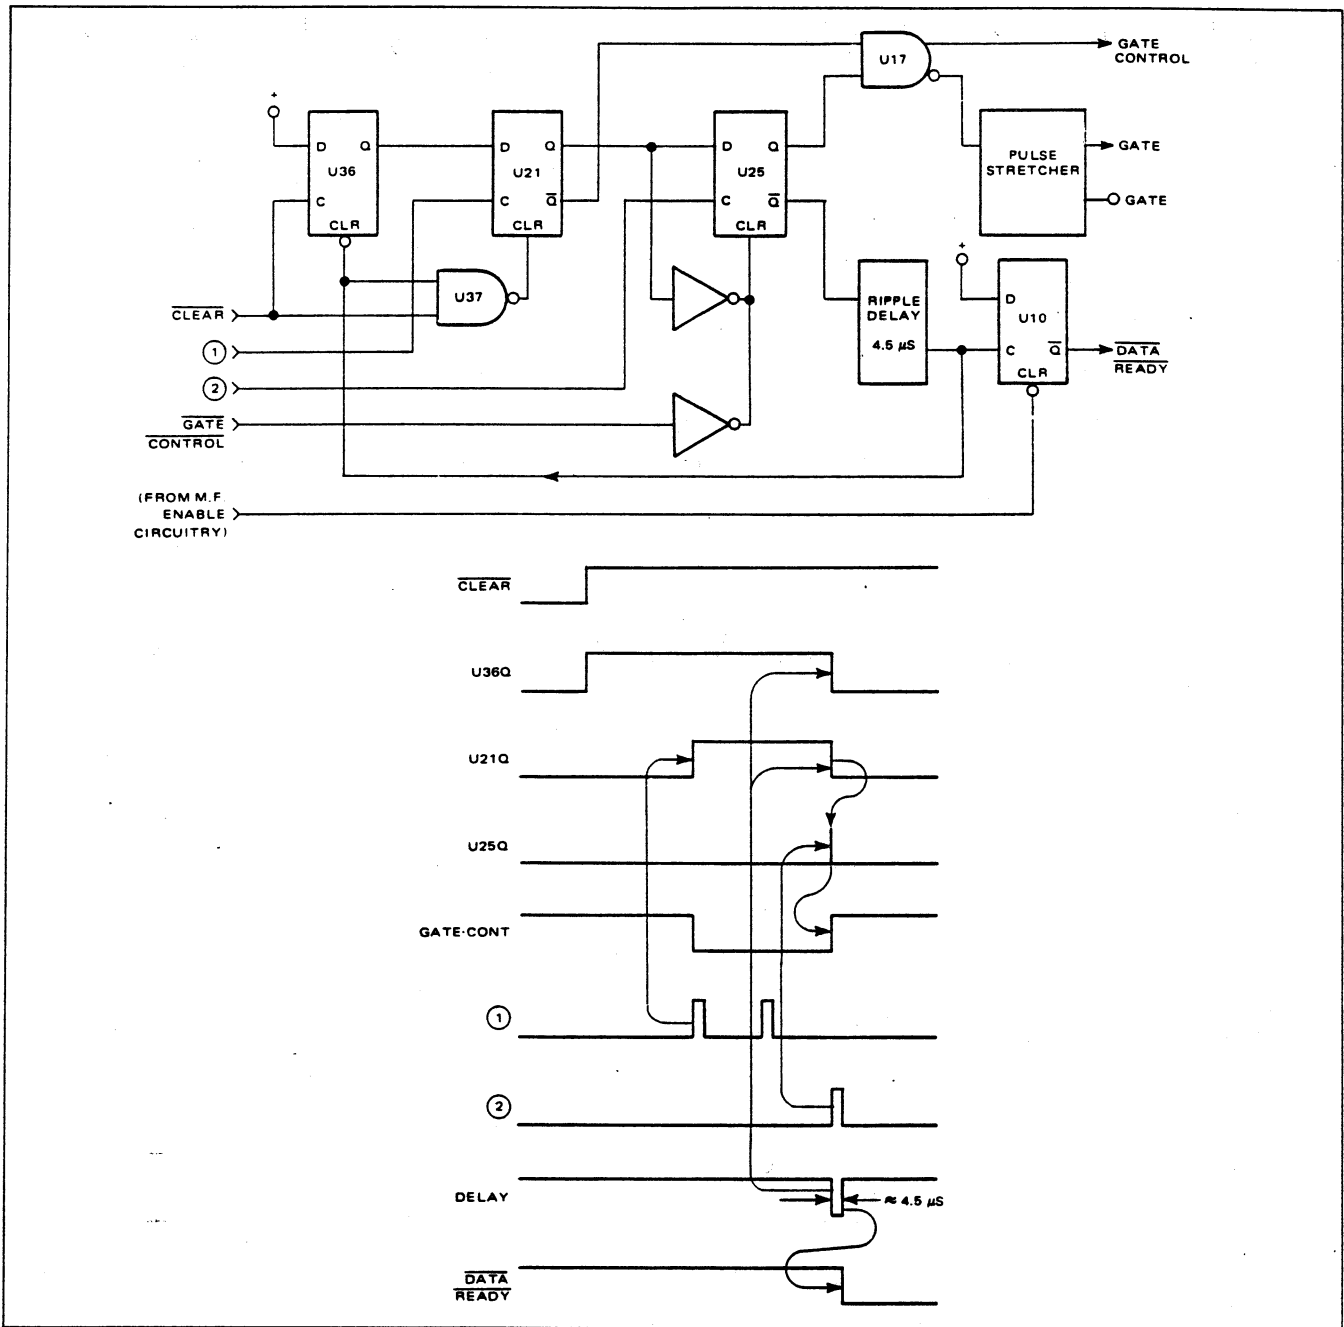

Figure 4.21 - Gate Control
control signal, the DATA READY signal, the gate light control signal, the GATE signal on the rear panel, and, with PARALLEL ENABLE, the UPDATE signal. Referring to figure 4.21, the circuitry is armed when CLEAR goes high setting U36Q true. A positive going edge at input ① sets U21Q high and U21Q̄ low setting the gate control signal false and enabling the GATE circuit. This state continues regardless of what the ① input level is. A positive going edge at ② sets U25Q high, setting the gate control signal false and inhibiting the GATE circuit. At the same time U25Q̄ goes low generating a 4.5 microsecond negative going